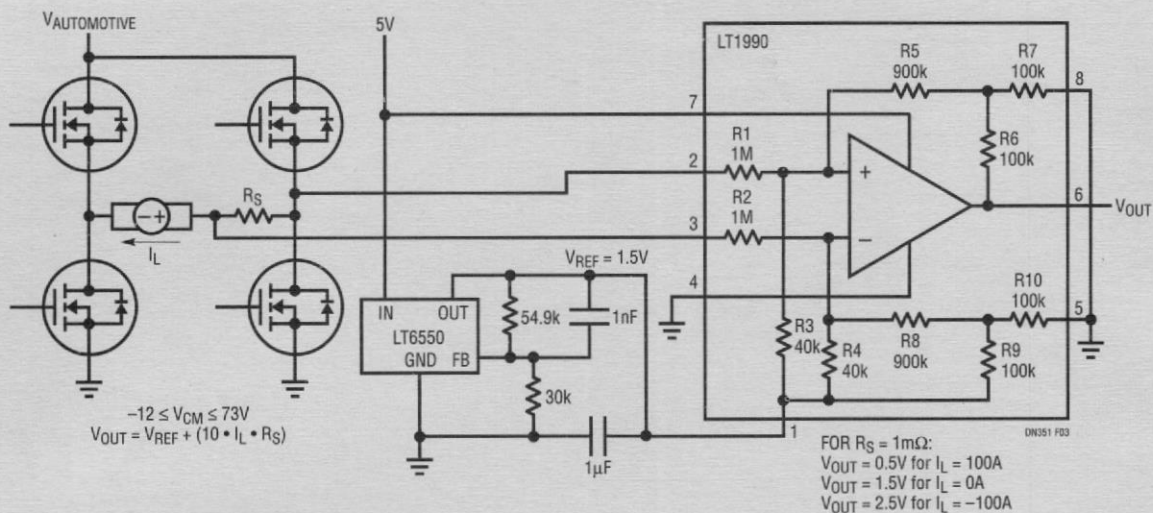

Figure 3. Offsetting a Bidirectional Signal for Unipolar Processing
the output is “saturating” (even with rail-to-rail types). A design solution is to have a voltage reference circuit drive the REF port of input instrumentation amplifiers (IA), thereby introducing a controlled offset mapping that allows the ADC to accurately capture the “zero input” signal level, or even provide a controlled negative signal conversion range within a positive-only input window. Figure 3 shows a single supply powered LT1990 difference amp sensing a bidirectional motor current. The LT6650 reference is configured to provide an optimal REF input level for the circuit (1.5V in this example) which both establishes the working common mode input range and introduces an output offset that maps the desired bidirectional signal span into a single supply ADC conversion range. In high accuracy applications, the offset voltage itself may also be digitized so that software algorithms can accurately “auto-zero” the measurements. In multichannel data acquisition systems, a single LT6650 can generally provide offset signaling to an entire IA array.